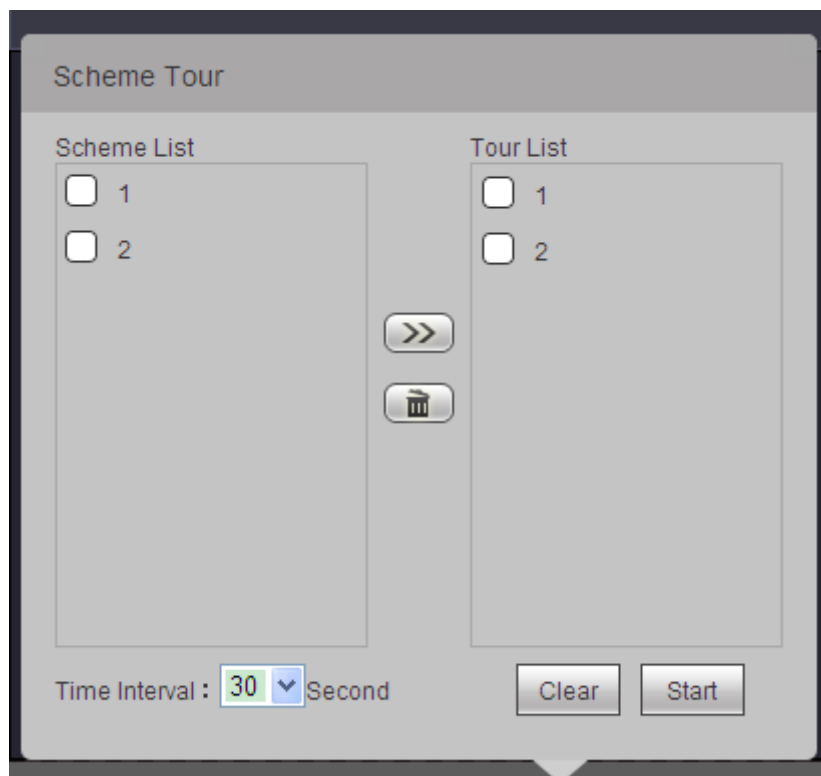

Figure 3- 10
Step 1. Click , system displays Figure 3- 10.